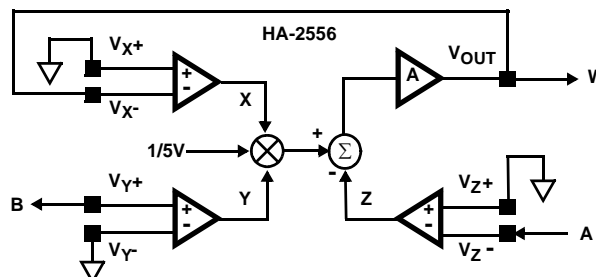

FIGURE 3. DIVIDER
Notice that the output (W) enters the equation in the feedback to the Z stage. The Balance Equation does not test for stability, so remember that you must provide negative feedback. In the multiplier configuration, the feedback path is connected to V_{Z+} input, not V_{Z-} . This is due to the inversion that takes place at the summing node just prior to the output amplifier. Feedback is not restricted to the Z stage, other feedback paths are possible as in the Divider Configuration shown in Figure 3.